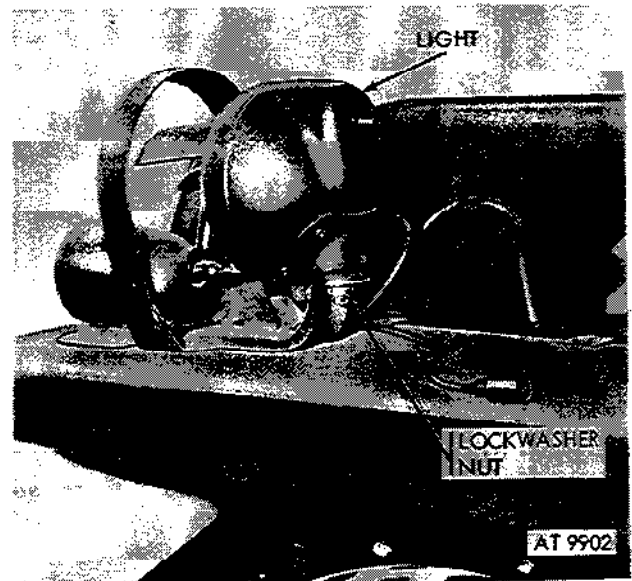

Figure 2-199. Remove driving light assembly.
(2) Remove nut and lockwasher securing blackout driving light assembly to bracket (fig. 2-199).